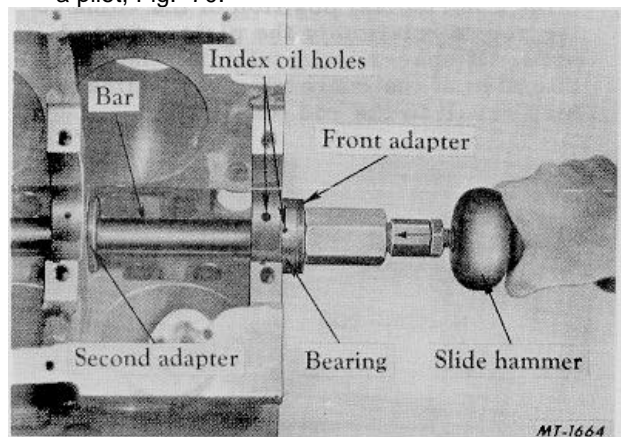

Fig. 70 Installing Front Bearing
11. Remove the bar and front adapter and position the new bearing on the front adapter. Slide the bar into the block and through the second adapter serving as a pilot, Fig. 70.
12. Align the oil holes and drive in the front bearing, Fig. 70. **NOTE:** The oil hole drilled through the groove in the bearing must align with the main bearing feed hole and the other oil hole must align with oil hole in top of block.